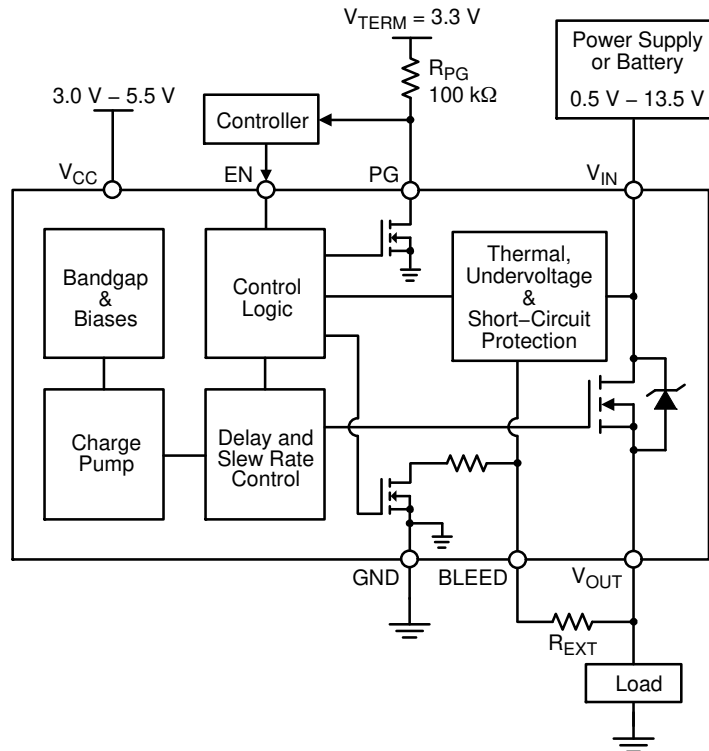
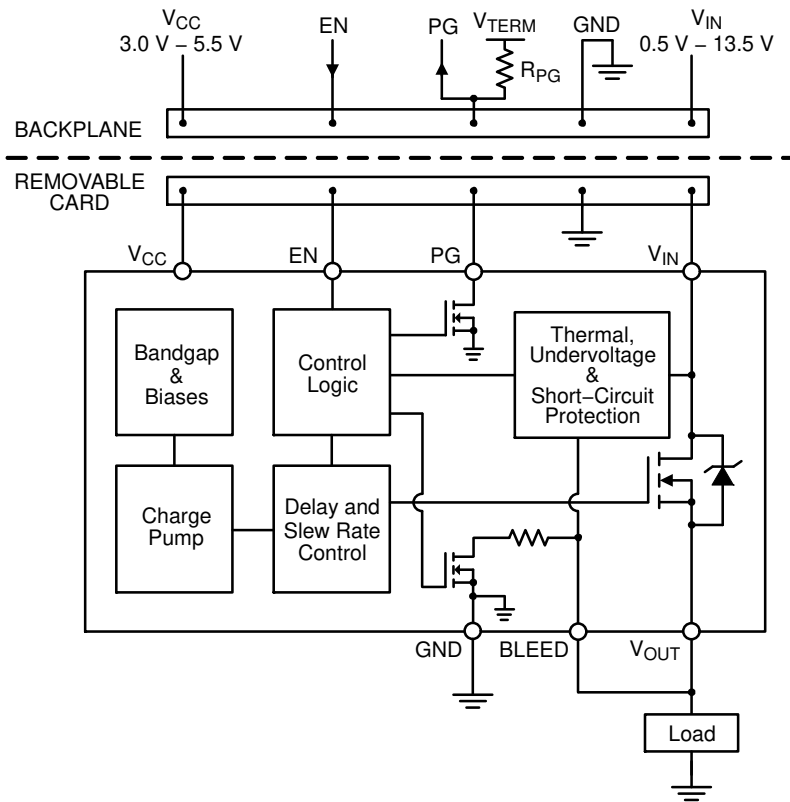

Figure 30. NCP45520 Typical Application Diagram – Load Switch
Figure 31. NCP45520 Typical Application Diagram – Hot Swap
It is required that the BLEED pin be connected to V_{OUT} either directly (as shown in Figures 31 and 34) or through an external resistor, R_{EXT} (as shown in Figures 30 and 33). R_{EXT} should not exceed 1 kΩ and can be used to increase the total bleed resistance.
The NCP45520 devices have a power good output (PG) that can be used to indicate when the gate of the MOSFET is fully charged. The PG pin is an active-high, open-drain output that requires an external pull up resistor, R_{PG}, greater than or equal to 1 kΩ to an external voltage source, V_{TERM}, that is compatible with input levels of all devices connected to this pin (as shown in Figures 30 and 31).
Once active, the circuitry monitors the difference in the voltage on the V_{IN} pin and the voltage on the BLEED pin. In order for the V_{OUT} voltage to be monitored through the BLEED pin, it is required that the BLEED pin be connected to V_{OUT} either directly (as shown in Figures 31 and 34) or through a resistor, R_{EXT} (as shown in Figures 30 and 33), which should not exceed 1 kΩ. With the BLEED pin connected to V_{OUT}, the short-circuit protection is able to monitor the voltage drop across the MOSFET.